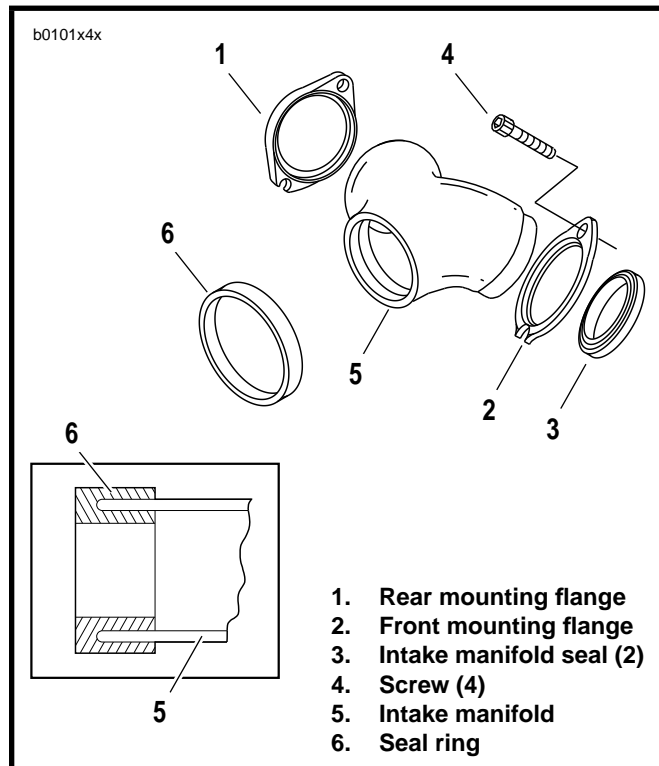

Figure 4-13. Intake Manifold
4. See Figure 4-13. Loosen two intake manifold screws (4) on primary side of engine. Do not remove.
5. Remove two manifold mounting screws (4) on gearcase side of engine.
6. Remove intake manifold (5) and seal ring (6). Slide both mounting flanges (1, 2) over primary side screws (4). Remove intake manifold seals (3).
1. See Figure 4-13. Place mounting flanges (1, rear and 2, front) on aluminum manifold (5).
2. Place intake manifold seals (3) on each spigot of manifold with chamfered edge against mounting flanges (1, 2).
3. Place channel of seal ring (6) over inlet end of manifold.
4. Position manifold against intake ports of cylinder head, with slotted and round holes in flanges (1, 2) aligned with holes in cylinder head. Manifold should slide over screws on primary side of engine. Insert two screws (4) through manifold flanges on gearcase side and loosely thread into tapped holes in cylinder head. Tighten intake manifold screws (4) to 6-10 ft-lbs (8.1-13.6 Nm).